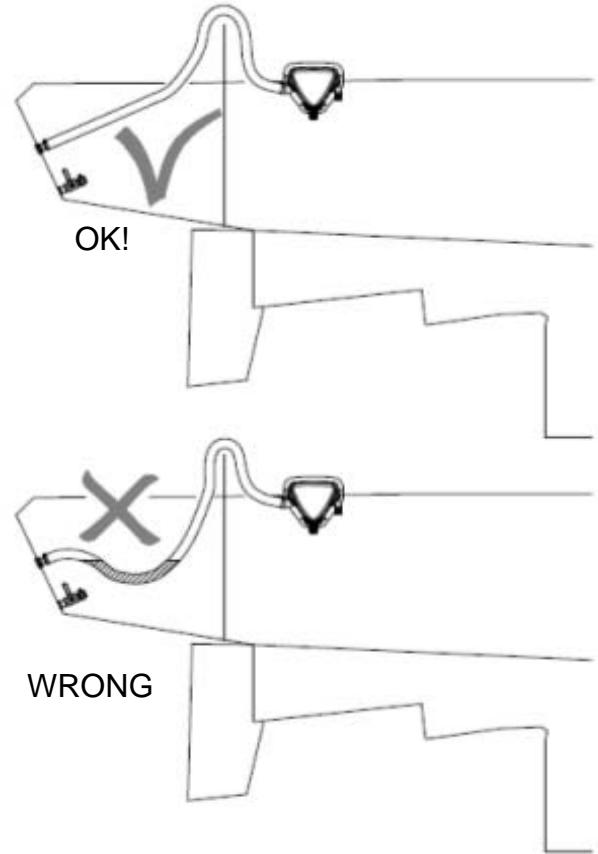

Figure 15: Water trap in exhaust system
However watertraps should be avoided as the fumes still contains water and this should not accumulate in bents (refer to fig 15 and 16). An additional outlet exhaust muffler close to the hull outlet will help further to reduce noise emission (see figure 12, ref.2).